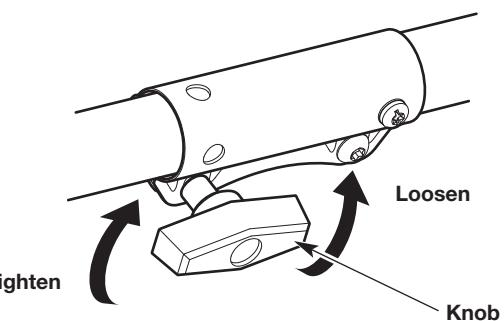

Fig. 3
3. Turn the knob counterclockwise to loosen the coupler (Fig. 3).
6. Turn the knob clockwise to tighten the coupler (Fig. 3).